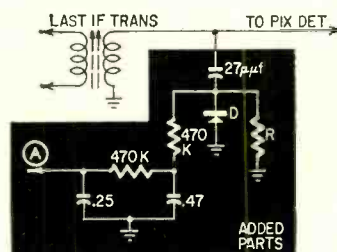

Fig. 3—Simple circuit for adding age to old receivers.
A generally applicable method is shown in Fig. 3. Couple a crystal diode (D) through a 27- μ f capacitor to the picture-detector input lead. The agc level is determined by the value of R. Select a value that gives best operation for your area. About 2 megohms is typical. Be sure that rectifier D is polarized to deliver negative output voltage and has a high front-to-back